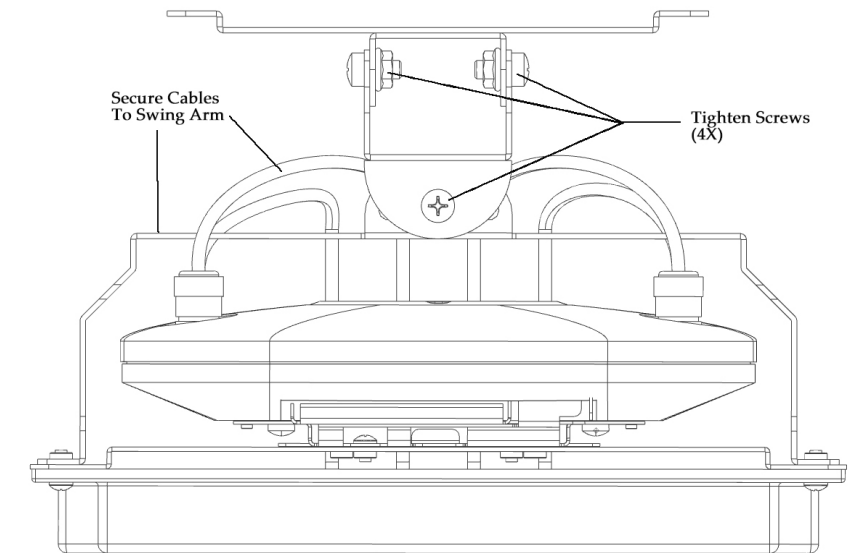

Figure 5
**Step 5** – Use the provided wire ties to secure antenna cables to the mount. Tighten the screws snugly in the four locations shown in Figure 5 for the desired position of the antenna.